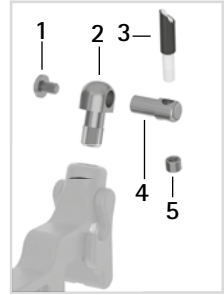

fig. 6
- 1 Adhere the retainer for pulling cable holder (2; fig. 6) with the 2-component adhesive into the bore of the locking pawl. The bore of the retainer for pulling cable holder must run parallel to the joint axis.